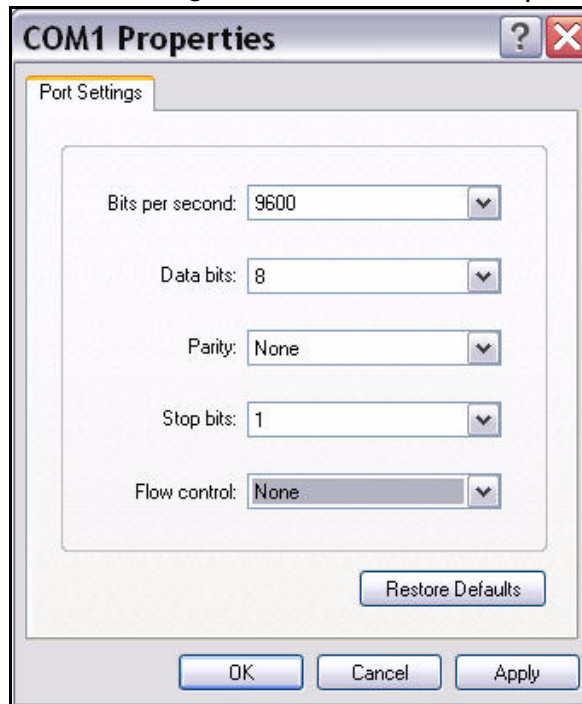

Figure 3. HyperTerminal COM1 Properties Dialog Box
10. Use the drop-down menus to select the COM1 Properties. Select the same settings as those shown in Figure 3.